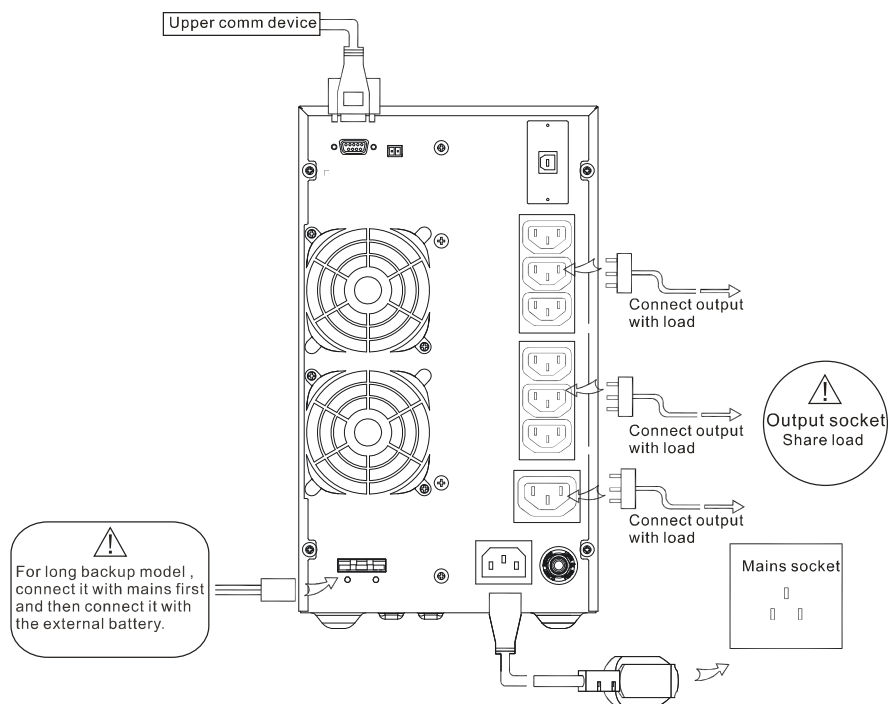

Figure3-5 Wiring diagram of 2kVA(L)/3kVA(L)
In the 2kVA (L)/3kVA (L) series, the input and output adopt sockets. When using it, please connect one end of the input power wire with input socket and then connect the other end of the input power wire with mains socket. Besides, connect the load power wire with the output socket. The wiring for the input and output of 2kVA(L)/3kVA(L) series UPS is as shown in Figure3-5.